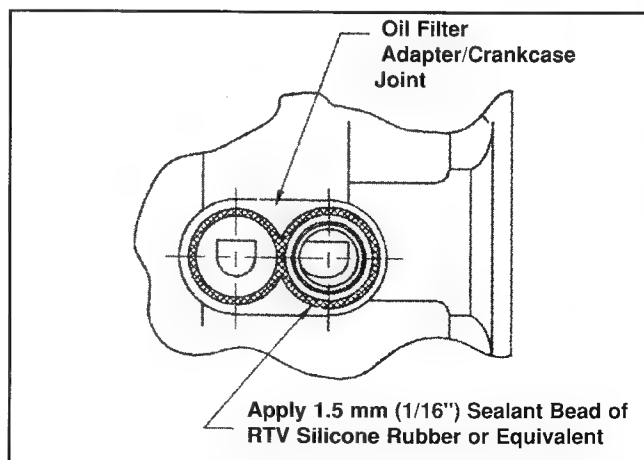

Figure 11-21. Sealant Pattern Oil Filter Adapter/Crankcase Joint.
3. Apply 1.5 mm bead of silicone sealant to crankcase/oil filter adapter joint. See Figure 11-21.